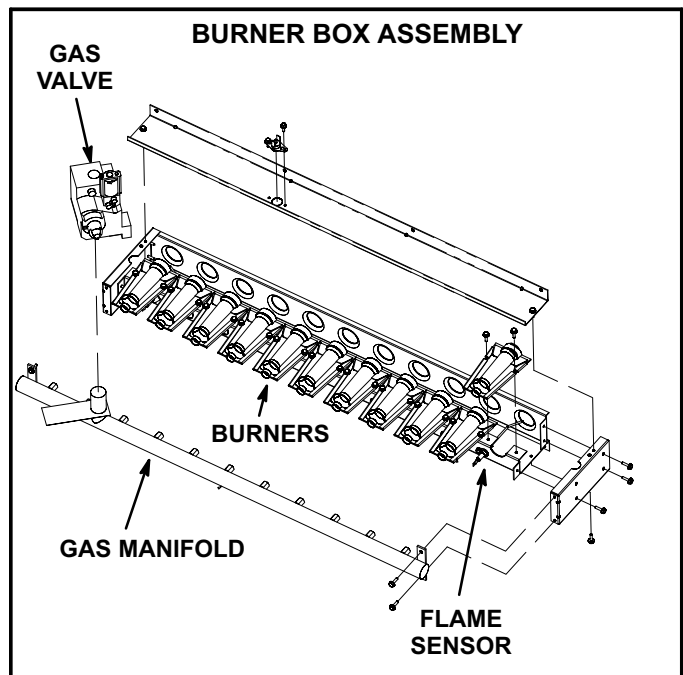

FIGURE 25
- 3- Remove two screws securing burners to burner support and lift the burners from the orifices. See figure 25. Clean as necessary.